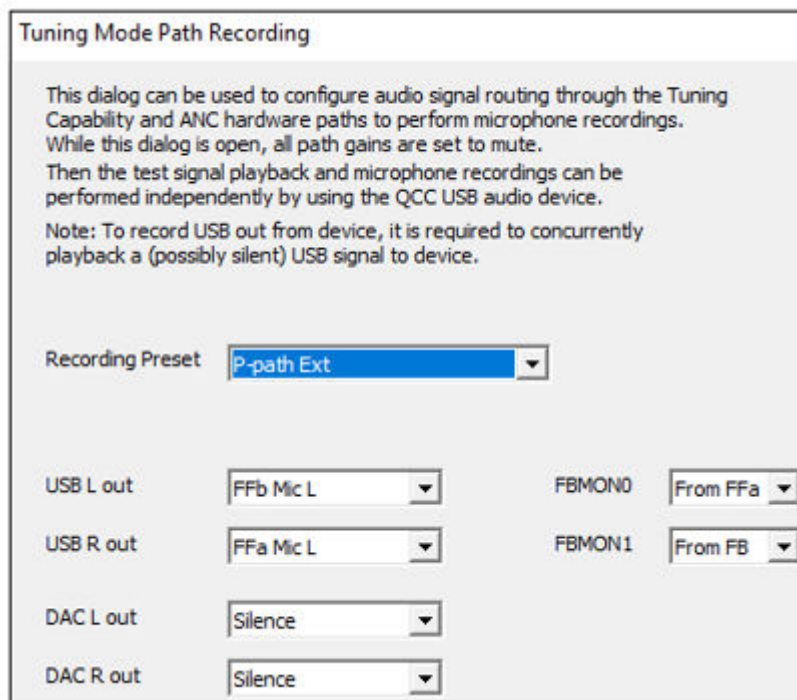

Figure 9-14 Selecting P-path Ext in Tuning Mode Path Recording dialog
2. In **Recording Preset**, select **P-path Ext**, see Figure 9-14.